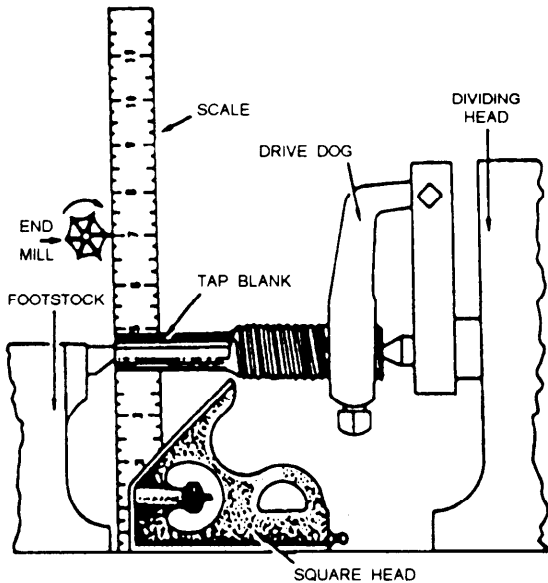

Figure 7-66.—Aligning the work and the cutter.
9. Align the cutter with the end of the work. Use a square head and rule, as shown in figure 7-66.